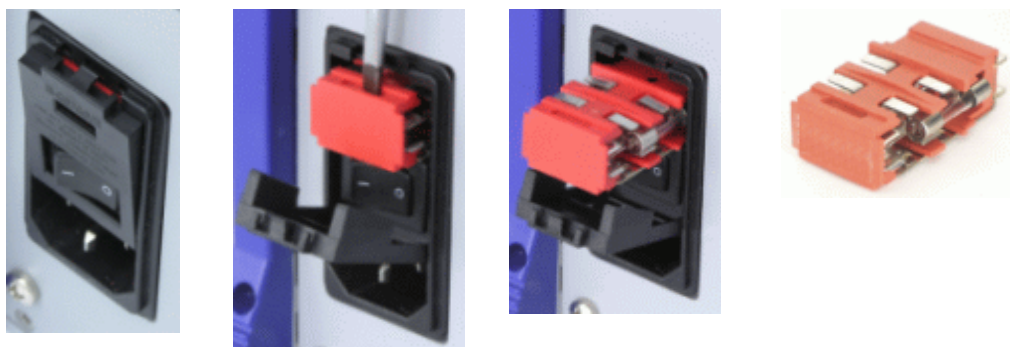

Figure 39: Accessing the line fuses (only permitted when the power cord is removed)
3. Using a slot screwdriver, pry open the fuse holder from the power inlet (see Figure 39 below).